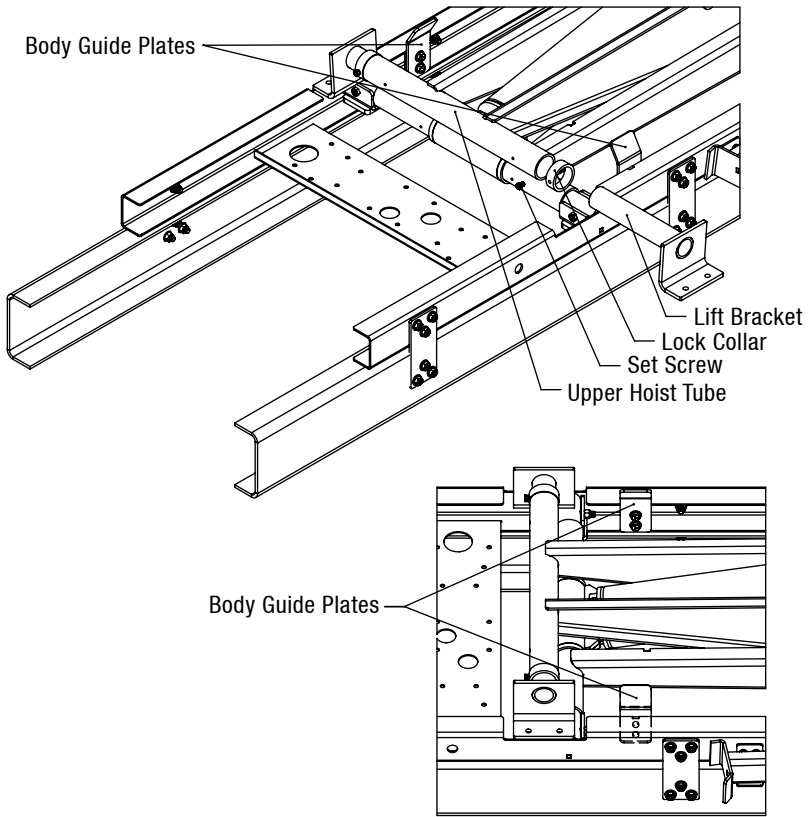

Figure 6: Lift Shaft Installation
4. Slide a lock collar onto each lifting shaft, and then slide the shafts into each end of the upper hoist tube (Figure 6).
5. Install a body guide plate onto each sub-frame rail using a set of bolt holes provided. Fasten guides using the supplied hardware (Figure 6).